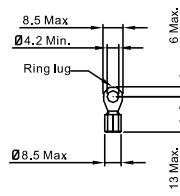

Figure 1
- Figure 1 shows the terminal specification.